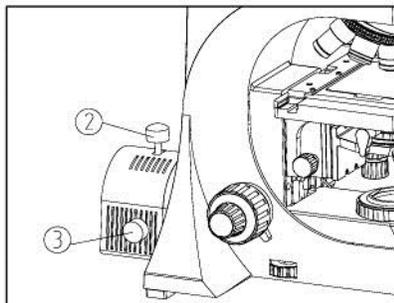

Fig. 32
If the filament is not in the center of the field of view, adjust the two knobs as shown in Fig. 32 until it is centered. The top knob ② controls the up and vertical (up/down) movement while the side knob ③ controls the horizontal (left/right) movement.